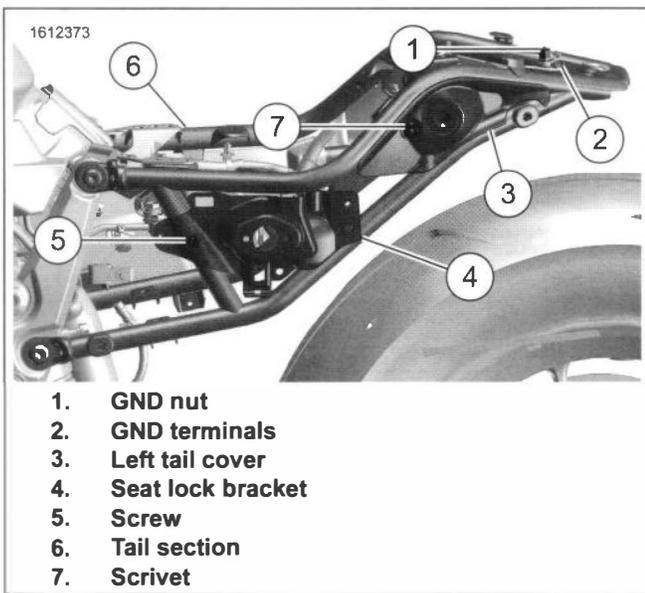
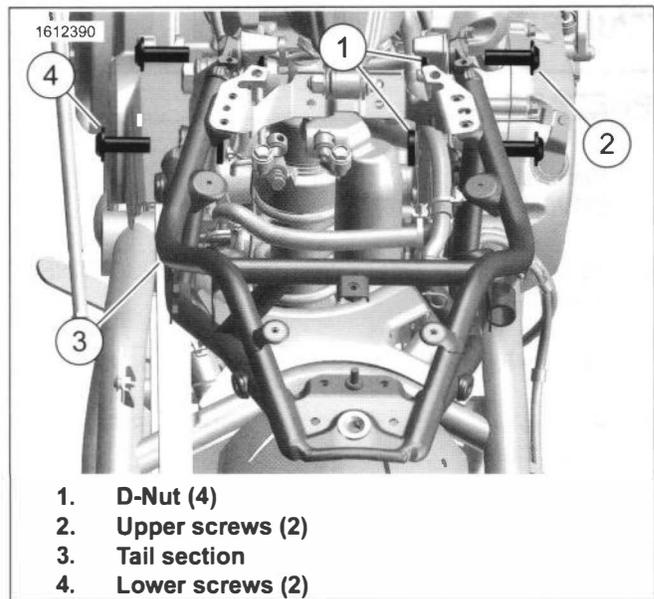
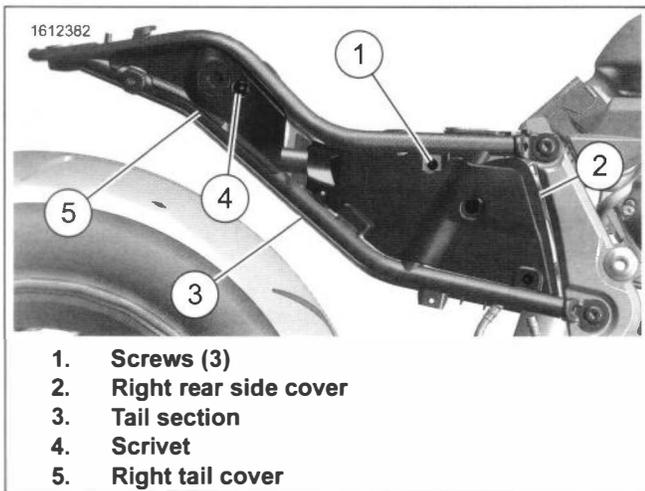

Figure 3-105. Left Tail Section
Figure 3-107. Tail Section
Figure 3-106. Right Tail Section
1. See Figure 3-105. If required, remove scrivet (7) and left tail cover (3).
2. If required, remove screw (5) and seat lock bracket (4).
3. Remove ground nut (s) (1) and ground wires (2).
4. See Figure 3-106. Remove scrivet (4) and right tail cover (5).
5. Remove screws (1) and right rear side cover (2).
6. See Figure 3-107. Remove tail section.
- a. Remove lower screw (4).
- b. Remove upper screws (2).
- c. Remove tail section (3).
7. Remove D-Nuts (1).
1. See Figure 3-107. Install tail section.
- a. Install D-Nuts (1).
- b. Install tail section (3).
- c. Install upper screws (2).
- d. Install lower screw (4). Tighten.
2. See Figure 3-106. If required, install right rear side cover (2) and screws (1). Tighten.
3. If required, install right side tail cover (5) and scrivet (4).
4. See Figure 3-105. If required, install left rear side cover (3) and scrivet (7). If required, install seat lock bracket (4) and screw (5). Tighten.